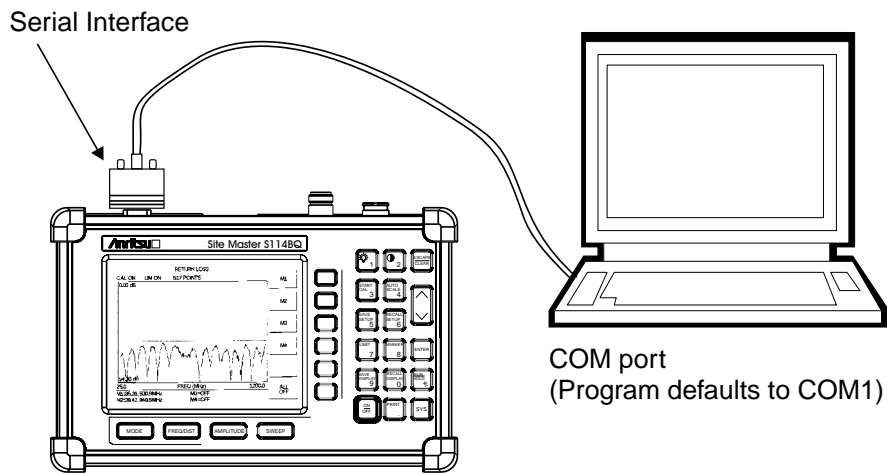

Figure 5-2. Serial Cable Connection
Step 1. Connect the supplied cable as shown in Figure 5-2.
- Step 1.** Connect the supplied cable as shown in Figure 5-2.